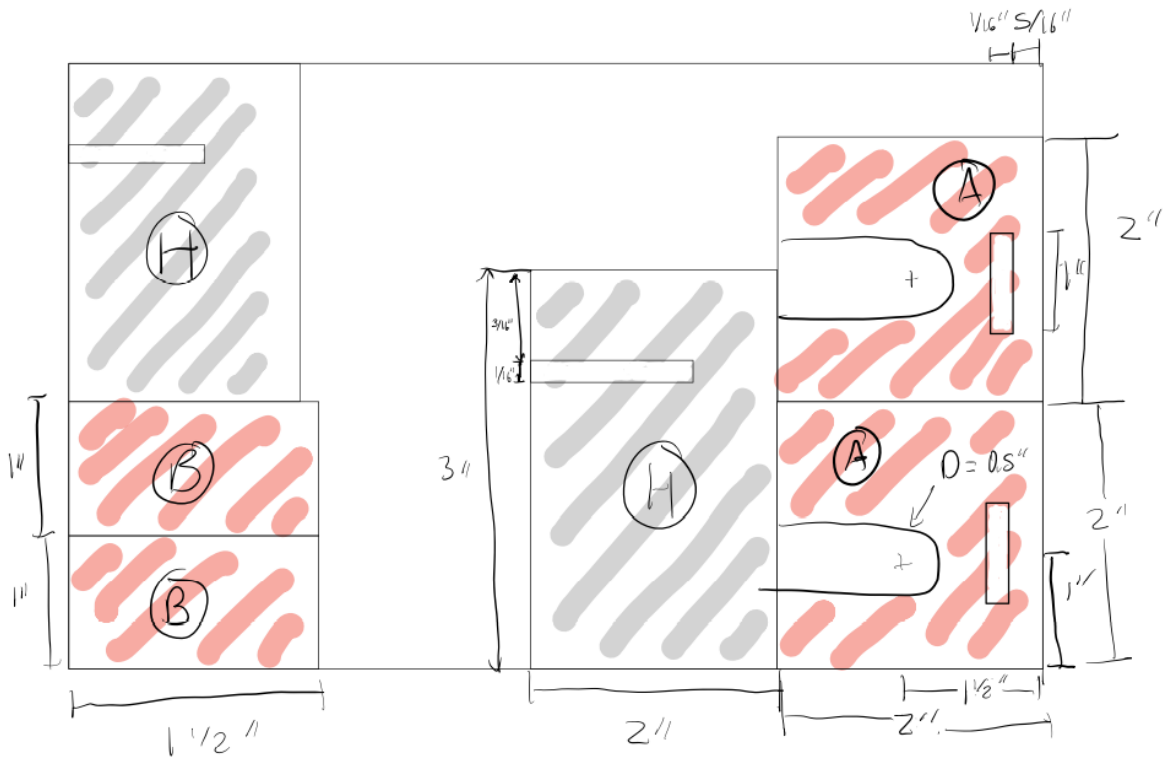

Figure 8: Cardboard 4 Cut Layout
3. Glue the blue shaded components together as seen in Figure 8.